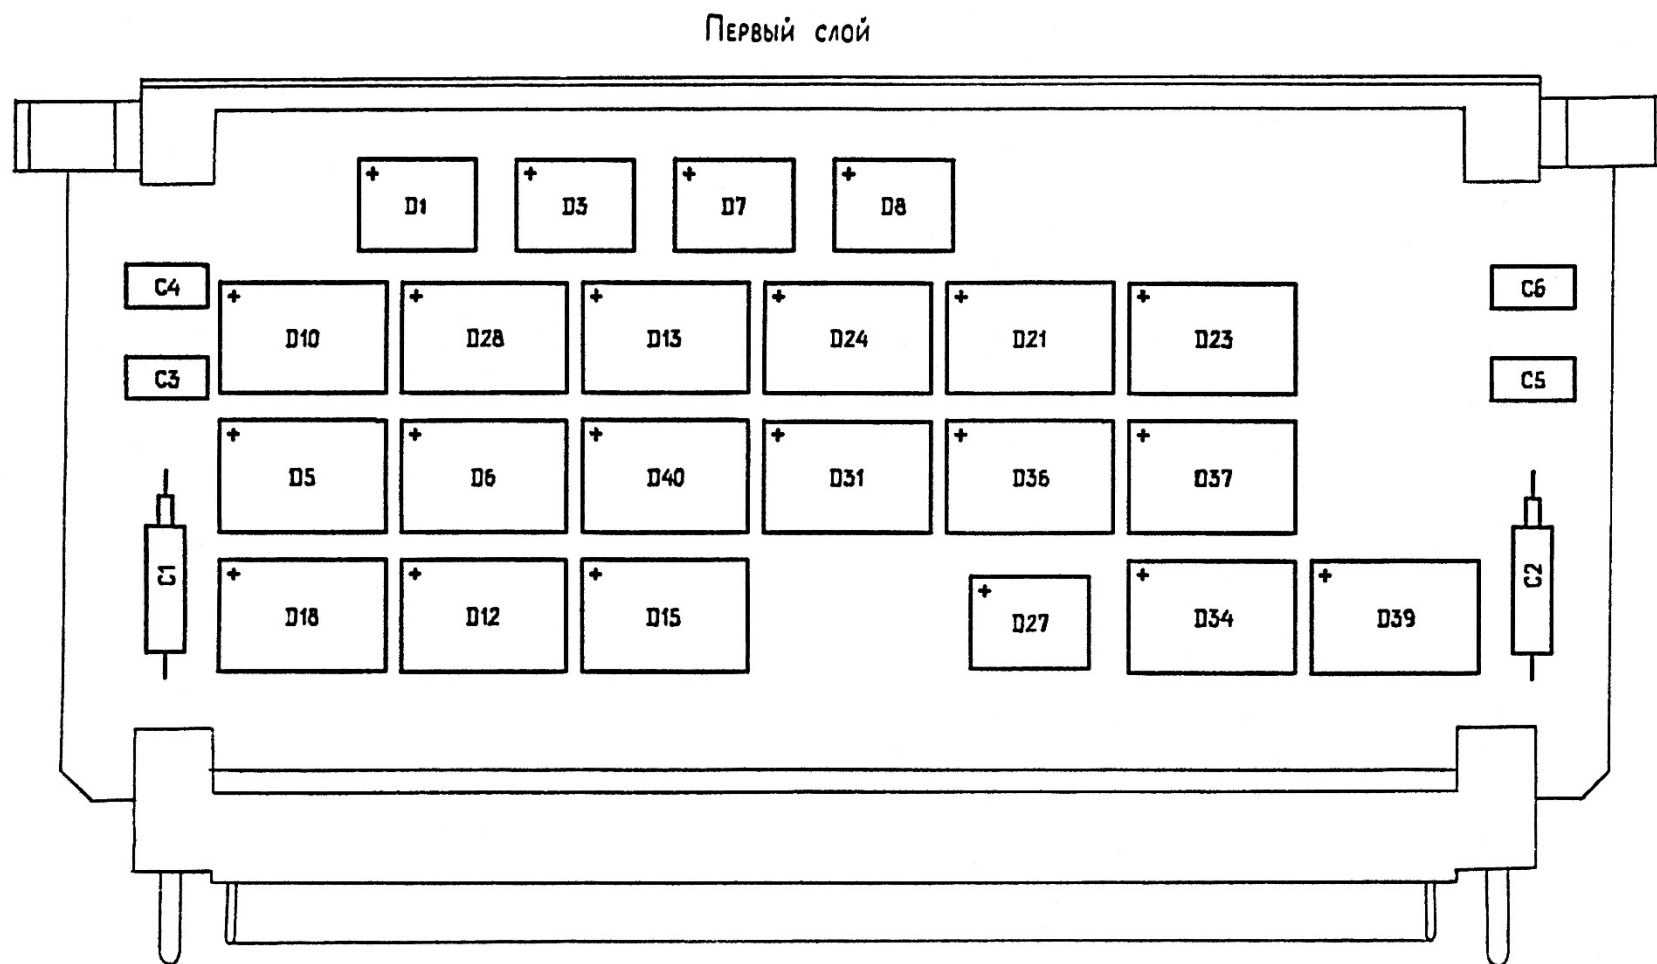

Figure 1.1 – Repair drawing of RO H6.17.06.08 ЕФ3.035.074. First layer
1.1 During diagnostics and repair of repair object (hereinafter referred to as RO) H6.17.06.08 ЕФ3.035.074, refer to the data of repair drawing shown in Figures 1.1, 1.2.